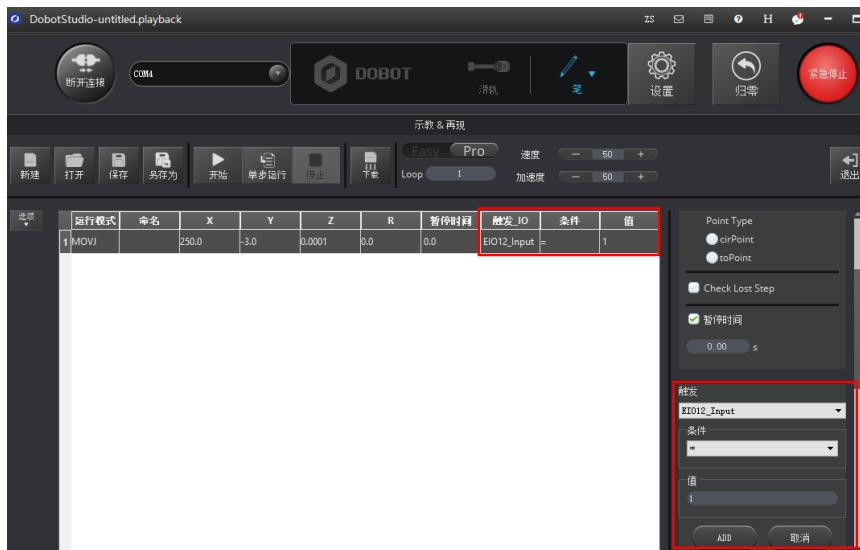

Figure 5.210 Saved point
**Step 4** Click **ADD**, as shown in Figure 5.210.